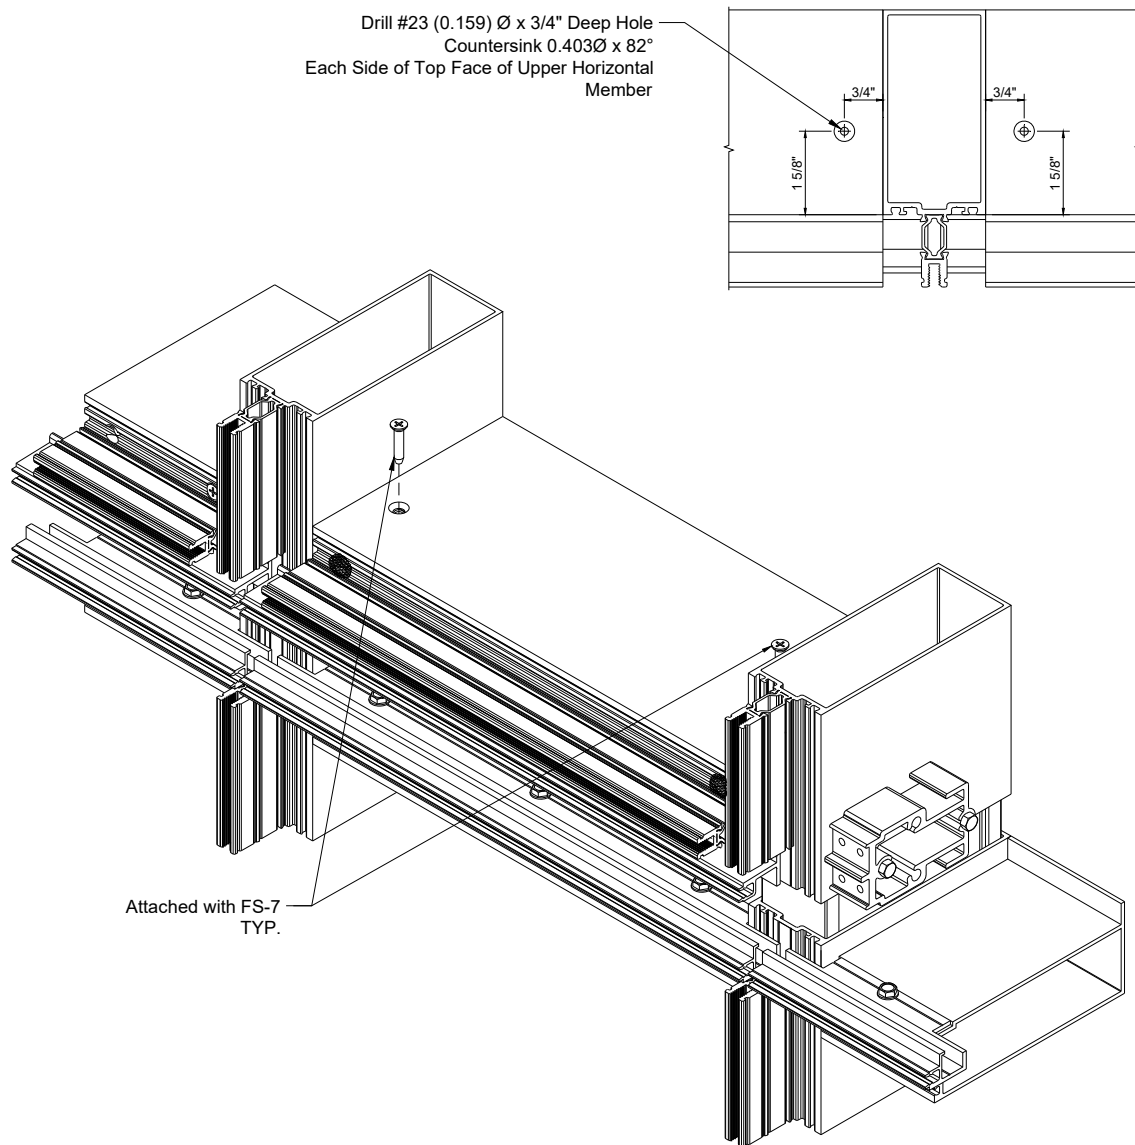

Figure 51: Upper Expansion Horizontal Shear Block Fastening
- 16.9 Drill #23 (0.159") Ø x 3/4" deep holes at both end of the upper Horizontal per *Figure 51*. Countersink to 0.403 Ø x 82° and attach with **FS-7** Fasteners at each end.